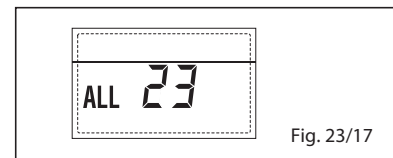

Fig. 23/17
- ANOMALIA SONDA COLETOR SOLAR (S1) "ALL 24" (fig. 23/18)